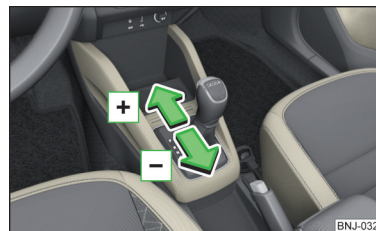

Fig. 214
- To **change up**, tap the selector lever forwards  » Fig. 214.
- To **change down**, tap the selector lever backwards  » Fig. 214.